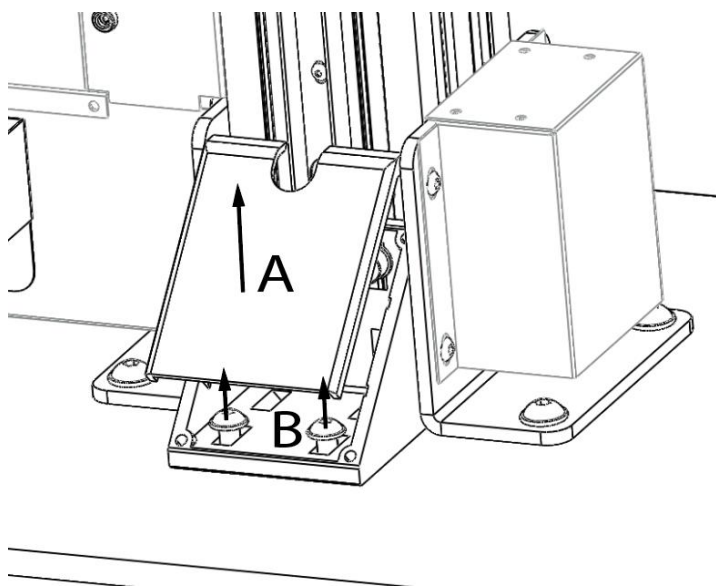

Figure 1
2. Remove the rear plastic cover from the bottom of the stand (Figure 1 - A)
3. Unscrew the rear two M8 screws holding the stand to the floor / Base Plate (Figure 1 - B)